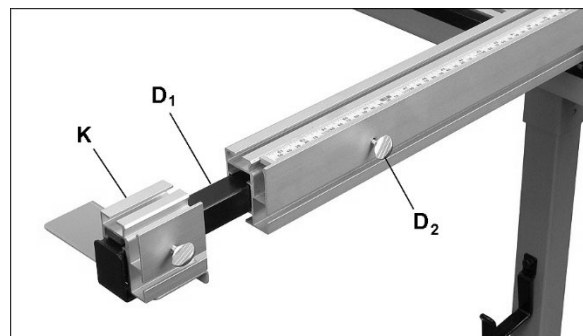

Figure 7-26
8. Pull fence extension (D₁, Figure 7-26) all the way out of fence. Install stop assembly (K) onto extension from opposite end.
1. Slide fence extension and stop (see K, Figure 7-26) out of fence.